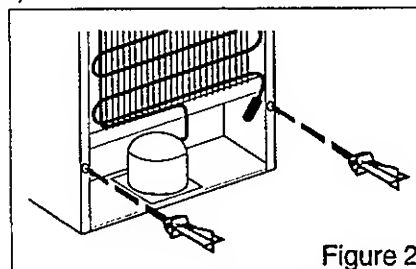

Figure 2
- The appliance has two spacers that should be inserted into the opening on the rear wall of the appliance, which makes it impossible for the appliance to be pushed too close to the wall (Fig. 2).